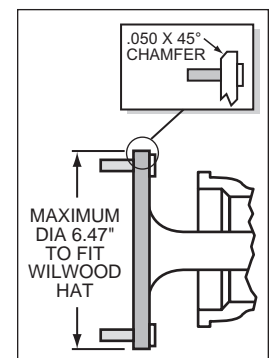

Figure 3. Axle Flange Maximum Dimension
- Maximum axle flange diameter must be no larger than 6.47" w/.050" x 45° chamfer (see Figure 3, below right).